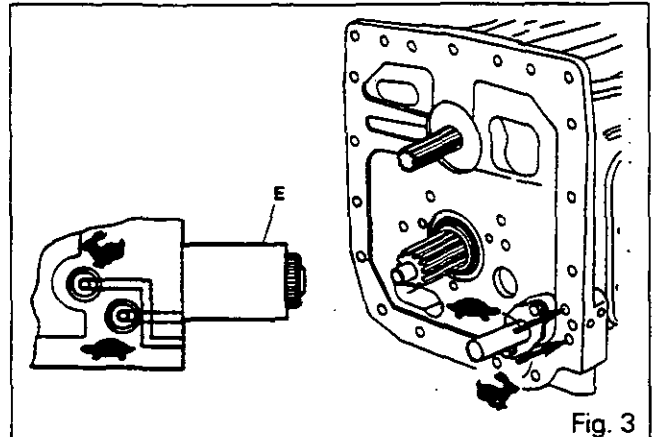

Fig. 3
Solenoid valve E, which is mounted at the bottom of the RH cover (chapter 9I01) (Fig. 3), opens and feeds hydraulic oil to chamber (a) situated at the rear of piston (13) (Fig. 9). The piston moves forward and applies pressure to fork (20).
8. Take out the cotter pins (18) and (25), washers (17) and (26). Remove pins (11) and (20). Lift the dust covers (49) (51) and (9) (16). Remove the reversing lever (23) and gear lever (12) and mark their positions (Fig. 3).